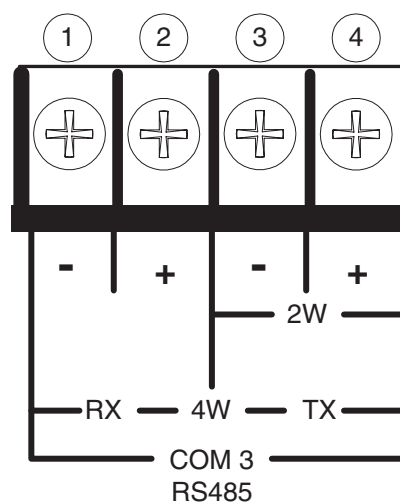

Figure 6-5 RS-485 2-Wire Testing
- On the rear of the unit, connect a PC to the relay at terminals 3 (-) and 4 (+) via RS-485 converter set for 2 wire operation. See Figure 6-5 for diagram.